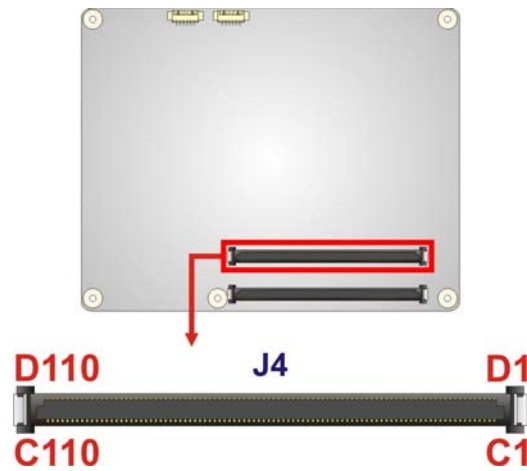

Figure 3-3: COM Express Connector CD Location
- CN Location:** See **Figure 3-3**